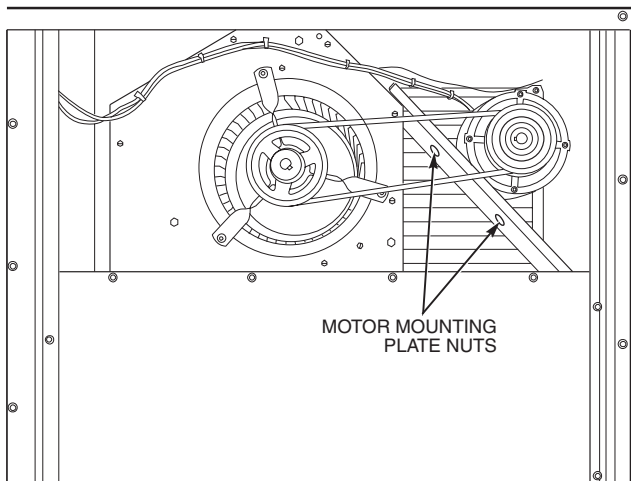

Fig. 36 — Typical Belt-Drive Motor Mounting for Sizes 090 and 102
- Loosen belt by loosening fan motor mounting nuts. See Fig. 36 and 37.
- Units 090,102* — Slide motor mounting plate away from fan scroll for proper belt tension ($\frac{1}{2}$ -in. deflection with 5 to 10 lbs of force) and tighten mounting nuts with 10 lbs torque (see Fig. 36).